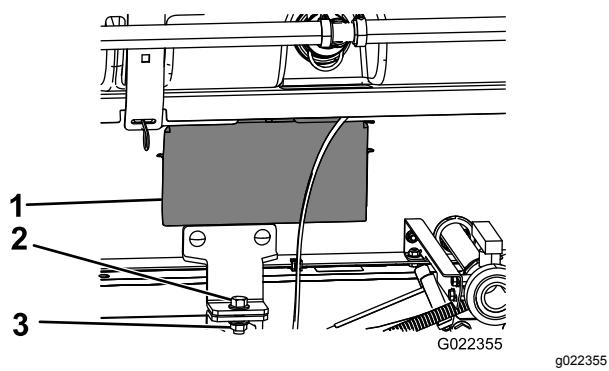

Figure 13
12. Use the access panels on both sides of the tank skid to check for pinching of any hoses or wiring (Figure 13).
15. Secure the tank skid assembly to the frame with a bolt (1/2 x 1-1/2 inches) and a locknut (1/2 inch) as shown in Figure 13.